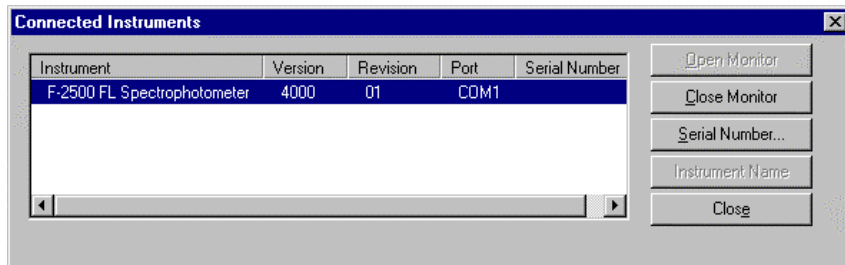

Fig. 1-27
Select the Instruments (I) command from the Tools (T) menu or click the  button. The dialog box shown in Fig. 1-27 opens.